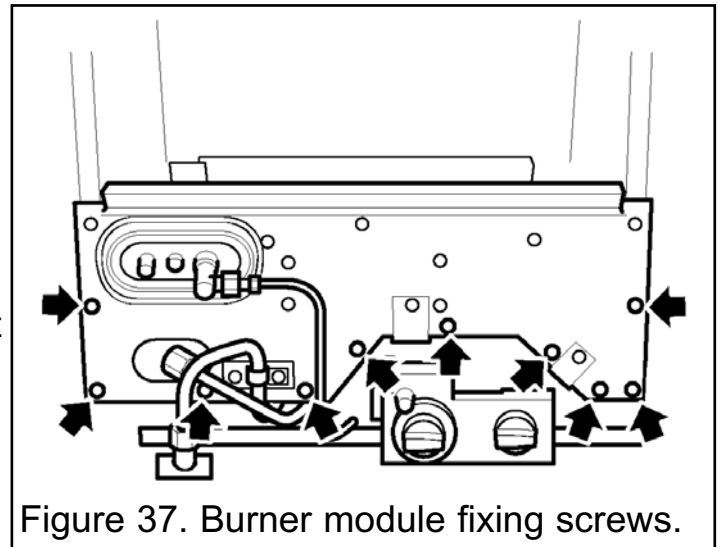

Figure 37. Burner module fixing screws.
- Detach the burner front cover by unscrewing the 10 screws at the front of the burner module shown in figure 37.